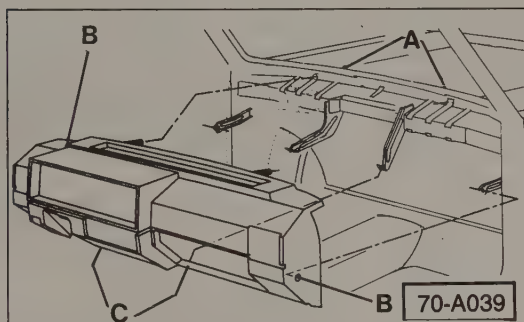

Fig. 4-11. Location of instrument panel padding retaining screws **B**, **C**, and nuts **A** to be removed. Nuts are in air plenum in engine compartment.
9. Remove the drip tray from the base of the windshield in the engine compartment, then remove the screws and nuts shown in Fig. 4-11. Partially pull the instrument panel away from the body. Remove any other electrical connections to the panel, and then pull it from the vehicle.